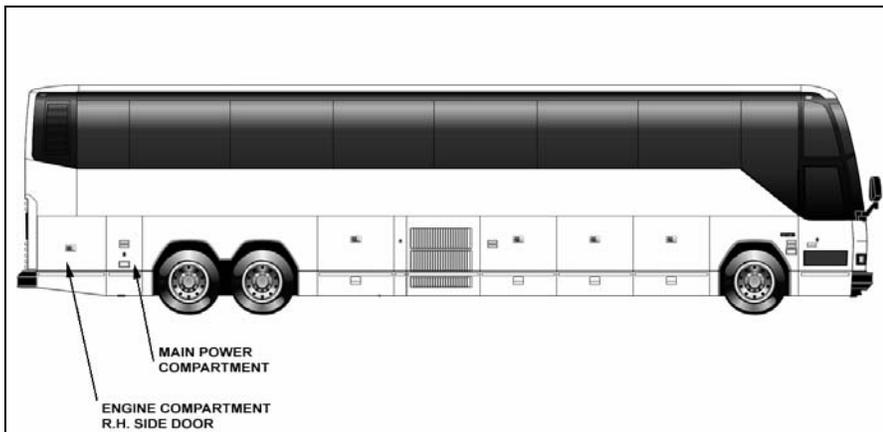
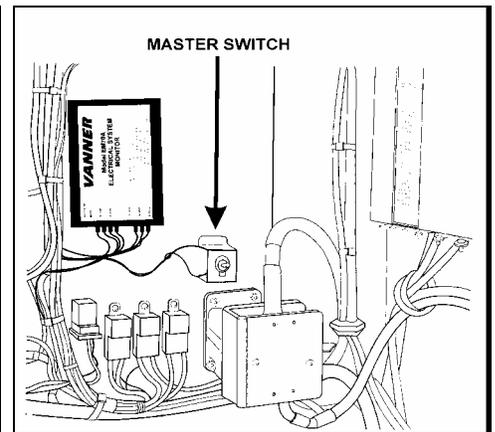

FIGURE 1 : ACCES DOORS AND COMPARTMENTS
FIGURE 2 : MAIN POWER SWITCH
1. Open engine R.H. side door (figure 1) .
4. Open the main power compartment door (figure 1) and set the battery master switch to the OFF position (figure 2).
26. Install the pump box (figure 2). To improve the gasket efficiency, it is recommended to put butyl sealant on the gasket.
32. In the main power compartment, set the battery master switch to the "ON" position (figure 2).